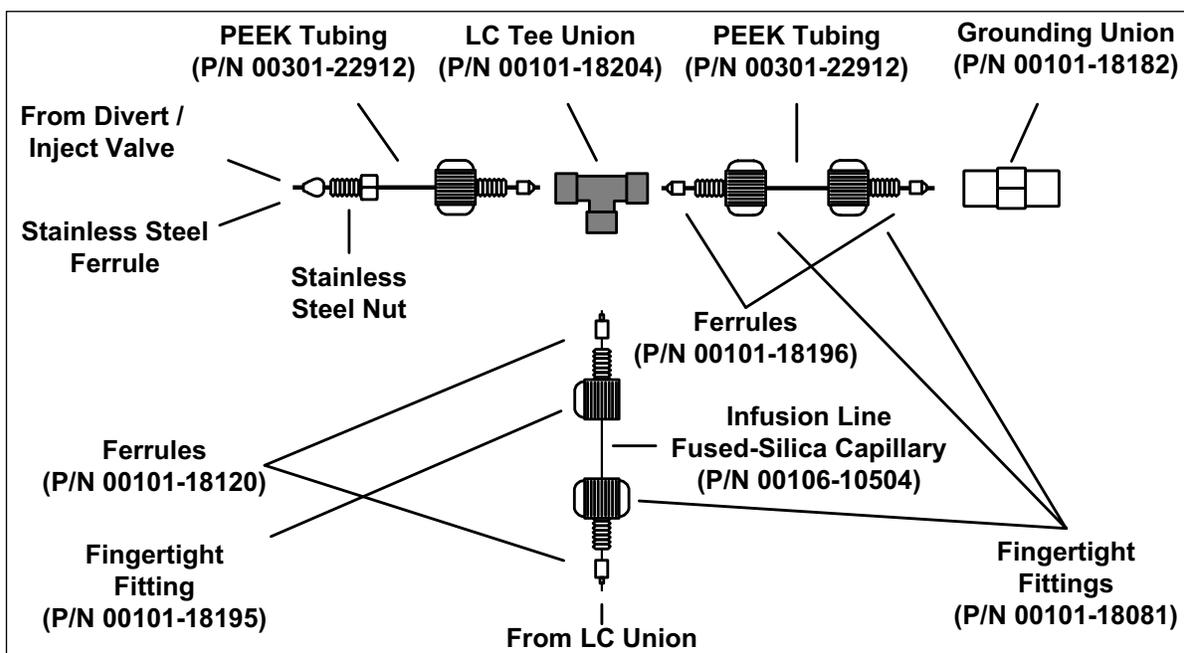

Figure 57. APCI/MS plumbing connections for the LC Tee union
4. Connect a fused-silica infusion line from the (black) LC union to the (black) LC Tee union, as follows. See Figure 57.
5. Connect a segment of PEEK tubing from the (black) LC Tee union to the APCI LC inlet, as follows. See Figure 57.
6. Connect an appropriate length of PEEK tubing (transfer line from the divert/inject valve) from the divert/inject valve to the LC Tee union, as follows. (See Figure 57.)